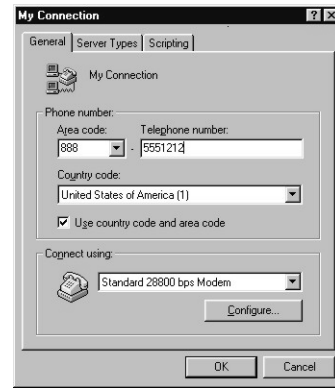

Figure 20 - General Tab
19. After selecting PROPERTIES, the "General" tab will be displayed. (Fig. 20)
20. Select the "Server Types" tab. (Fig. 20)